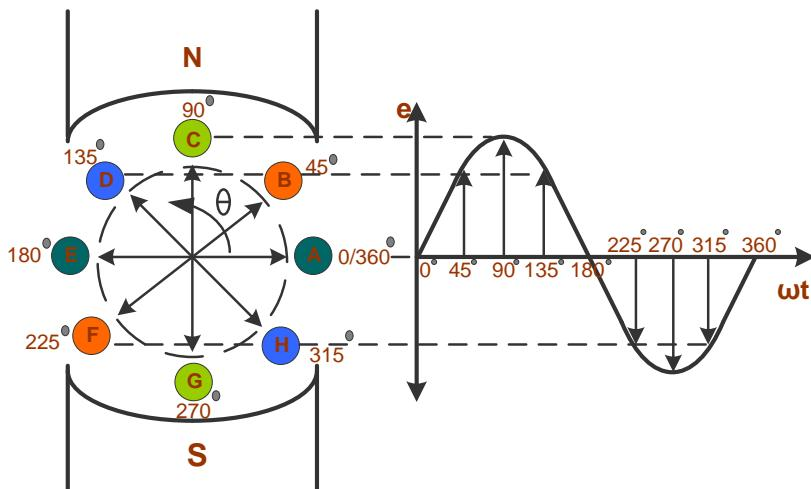

Figure 2.3 Waveform of Alternating Induced EMF
- Thus, both the induced emf and the induced current vary as the sine function of the phase angle $\omega t = \theta$. Shown in figure 2.3.